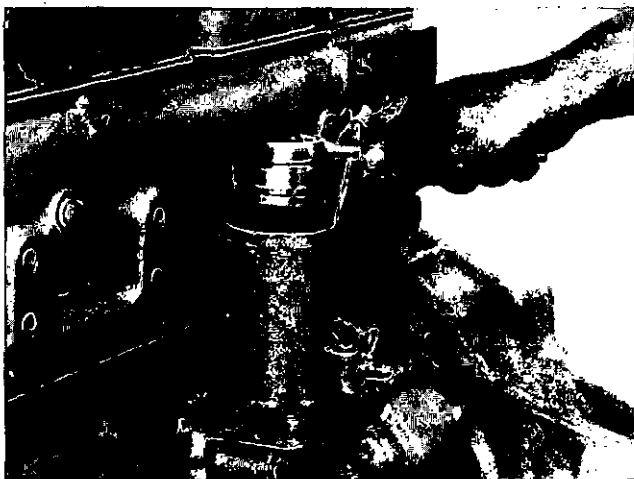

Fig. 14-33. Use The 3376021 Adjusting Tool To Rotate The Spring Retainer.
- b. Rotate the spring retainer to adjust the injection timing. Use the Part No. 3376021 Retainer Adjusting Tool to rotate the spring retainer, Fig. 14-33. Rotate the retainer counterclockwise to advance the timing. Rotate the retainer clockwise to